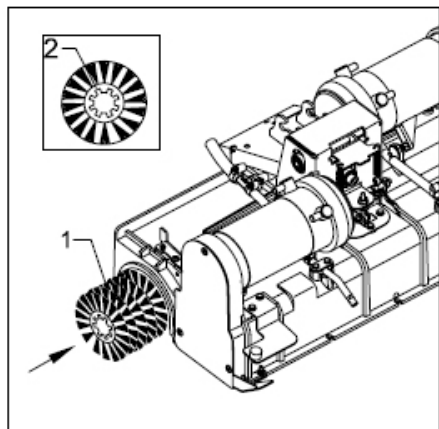

Figure 16 - Scrub Head Assembly
**Note:** The brush toothings (2) must point to the outside of the brush
1. Insert brush (Figure 16/1) with one hand by pushing evenly and in the direction of the arrow into the scrub head brush chamber.